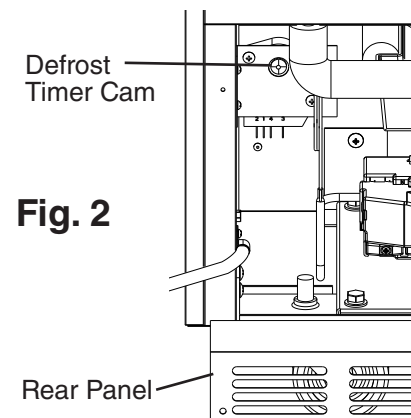

Fig. 2
- 1) Make sure the appliance is unplugged, then remove the rear panel. See Fig. 2.